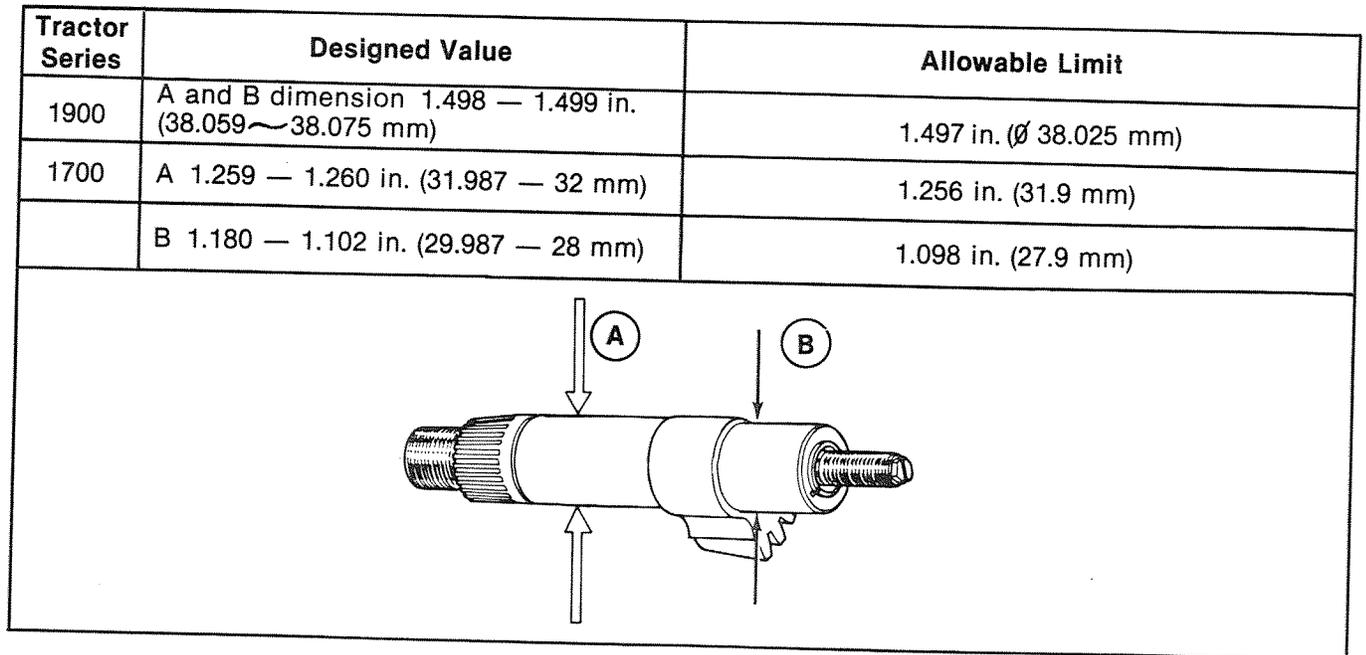

Figure 40
2. Measure the other diameter of the sector shaft, Figure 40. If the diameter measures below the allowable limit, replace the sector shaft.